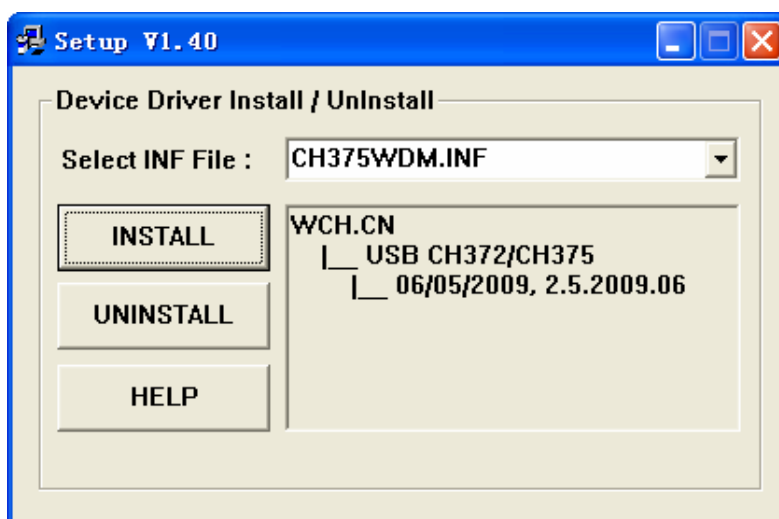

Figure 2-3
2.2. At the end of the installation procedure a pop up window SETUPV1.40 appears, which prompts to install the USB driver files. If the computer that you are installing does not be pre-installed with the USB driver, then click “INSTALL” to install driver; if the diver is already installed in your computer, close the window, as shown in Figure2-3.